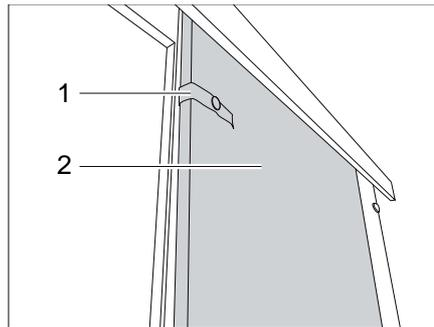

Fig. 85 Sliding door
- Release the securing strap (Fig. 85,1).
- Pull the sliding door (Fig. 85,2) into the closing position.
- Push the sliding door (Fig. 85,2) into the open position.
- Secure the sliding door with the securing strap (Fig. 85,1).